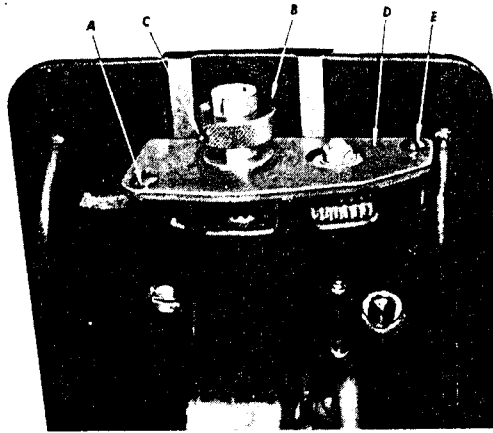
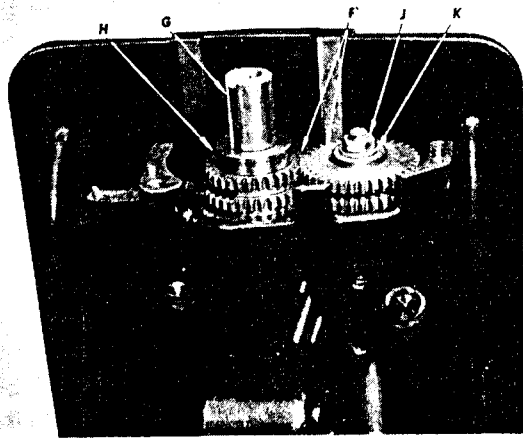

Fig. 8. Adjustment for Changing Length of Stitch
Fig. 9. Stitch Regulating Gears
The three pairs of feed gears are located at the left underneath the bed of the machine, each pair of gears making a different length of stitch. The location of the knurled collar (B, Fig. 8) on its shaft determines which pair of gears is engaged. When the knurled collar (B) is at the outer end of its shaft, the outermost pair of gears (F, Fig. 9) is engaged. When the knurled collar (B) is in the central position on its shaft, the middle pair of gears is engaged. When the knurled collar (B) is set at the innermost position on its shaft, the innermost pair of gears is engaged.
To change the length of stitch, raise the roller presser, then slide the knurled collar (B) to the desired position on the shaft and turn it in either direction until the engaging latch (G, Fig. 9) enters the notch in the gear.